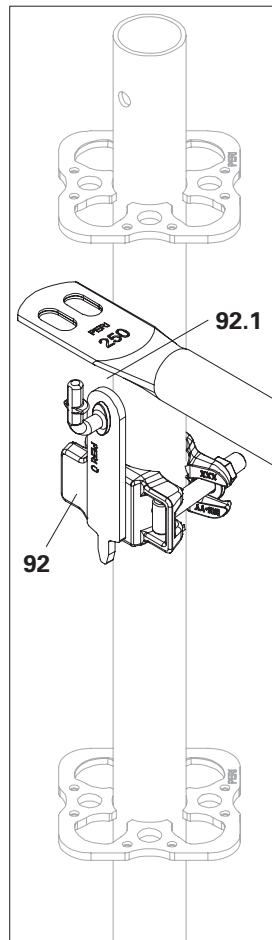

Fig. A11.04a
1. Screw the guardrail coupling with guardrail hook (**92.1**) to the top of the vertical. Tighten the coupling with 50 Nm. (Fig. A11.04a)